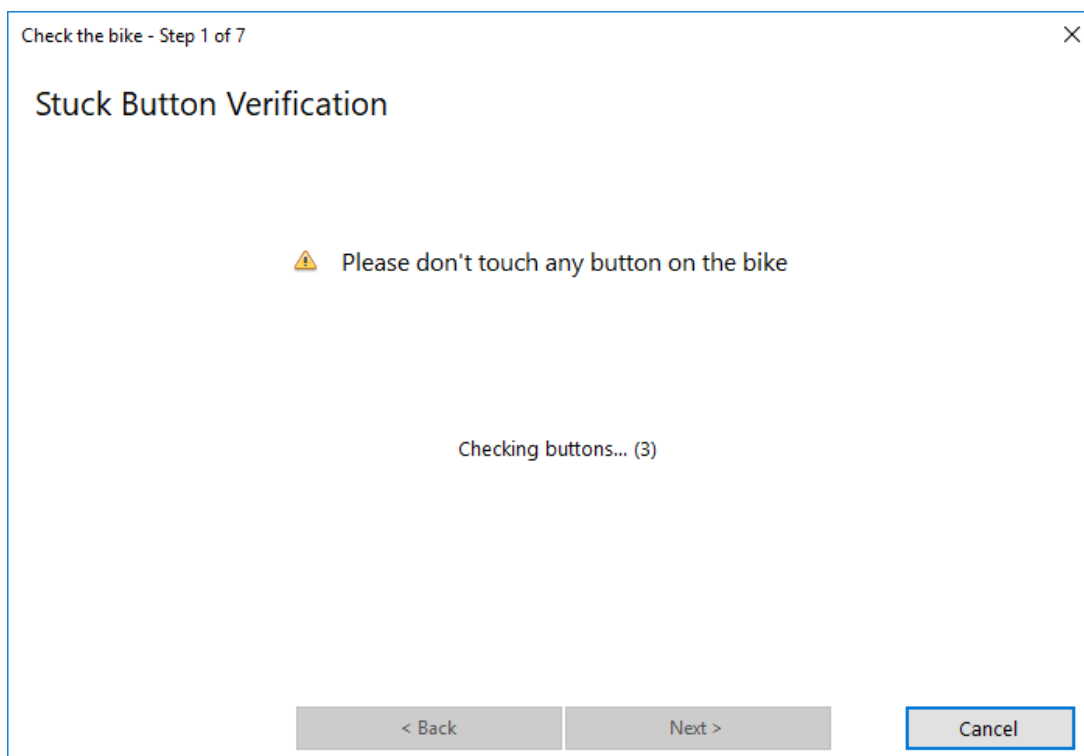
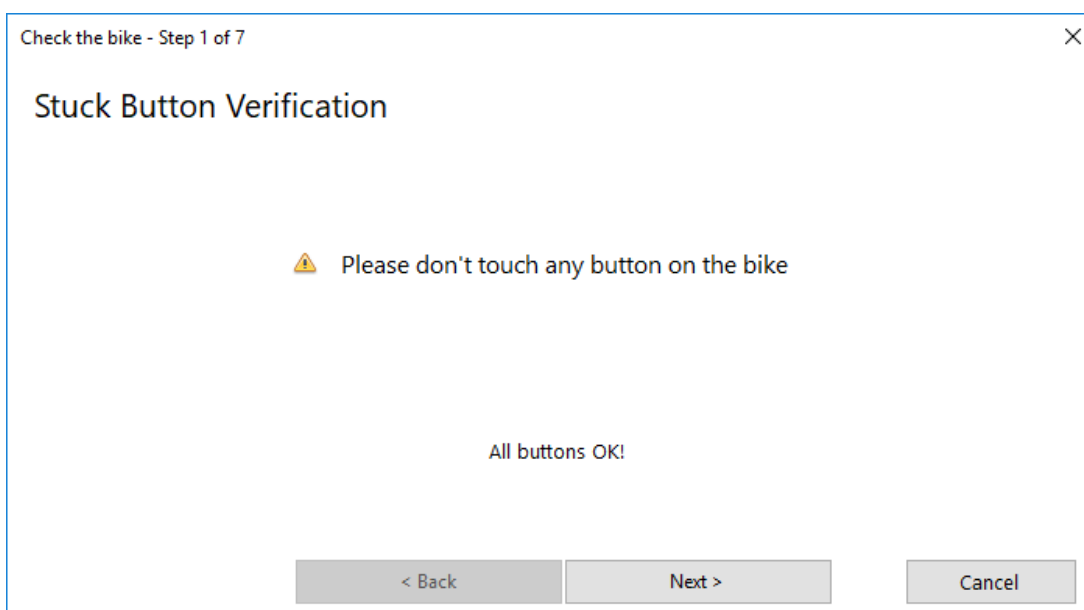

Figure 3.47 Display button test process
Figure 3.48 Completing the display button test
1. **Display button test** - the first part ensures that none of the buttons are jammed. Wait three seconds for automatic button verification (Fig. 3.47). Then confirm by click on the “Next” (Fig. 3.48).